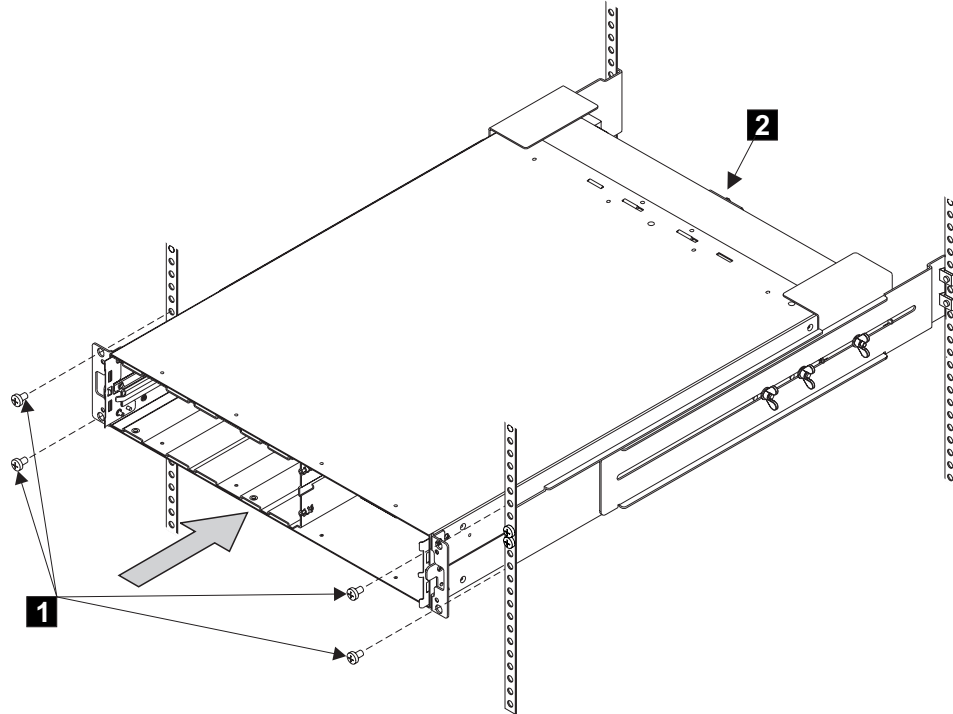

Figure 88. Installing the 2145 UPS into a rack
6. Install the front flathead screws (**1** in Figure 88 on page 127).